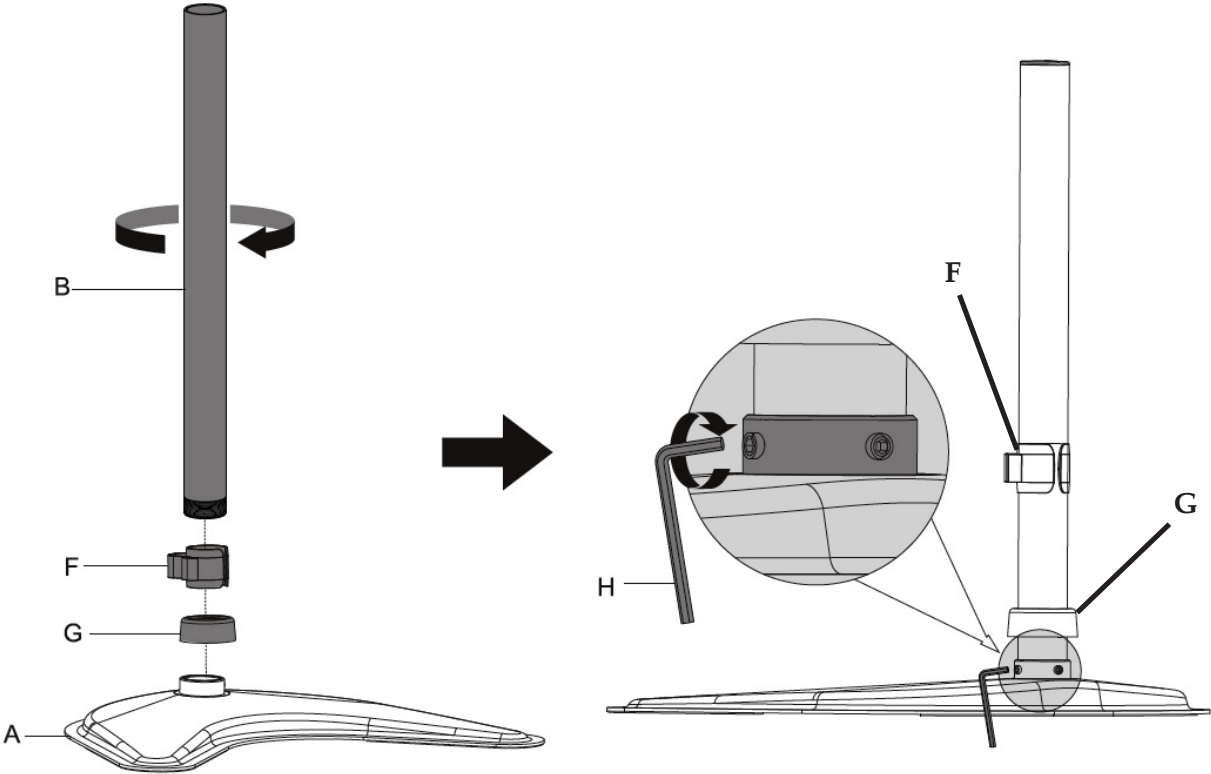

Figure 1
Slide the Cable Management Clip (F) and Plastic Cover (G) onto the tube support, then mount the Tube Support (B) to the Weighted Base (A) by turning it clockwise until hand tight. Next, use the 3mm Allen Key (H) to tighten the set screws to secure the tube support, see Figure 1. Continue to Step 2.